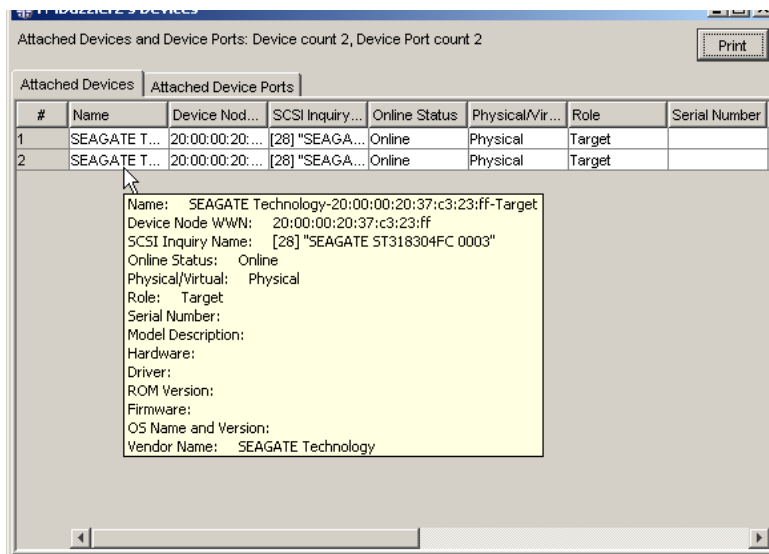

Figure 114 Device groups
- Double-click a device group (cloud) icon to open a window that displays a list of all the devices attached to that switch (see Figure 114). Each switch that has at least one device attached to it has a device group (cloud) icon attached to it. This window also provides a Print option.
NOTE: Place your cursor in any row within Figure 114 and receive a tooltip window listing all of the information for that row (without having to scroll to see each column entry). See "Enabling and disabling table view tooltips" on page 123 for information on enabling and disabling tool tips.